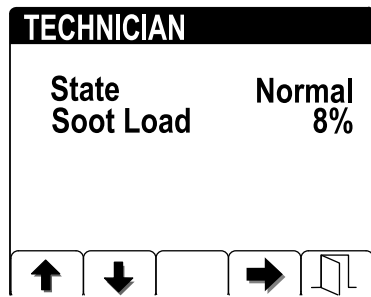

Figure 40
- View the soot load which is measured as the percentage of soot in the DPF(Figure 40); refer to the soot-load table.